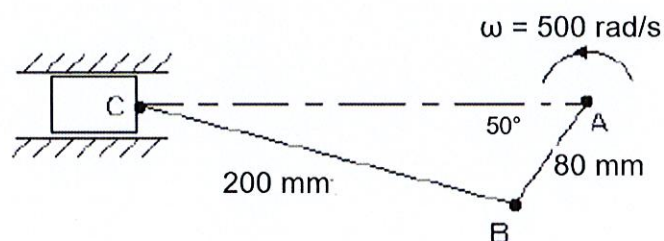

Figure 3 / Rajah 3
- (c) The crank AB rotates counterclockwise at 500 rad/s as depicted in Figure 3. Draw the space diagram by using a scale 1 cm: 20 mm and velocity diagram by using a scale of 1 cm: 5 m/s. Calculate: